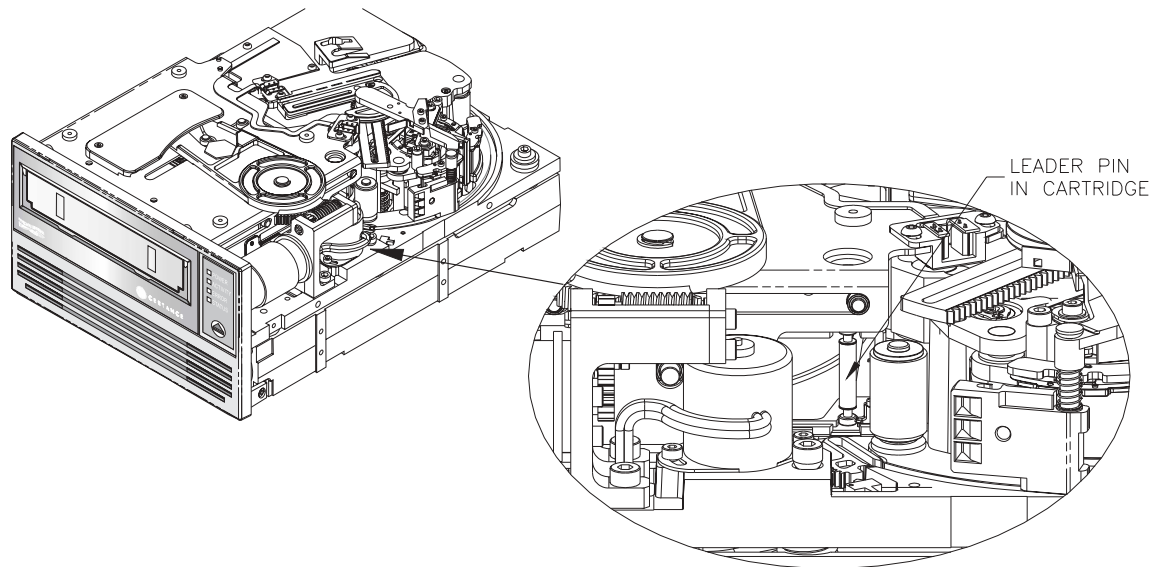

Figure 21. Diagram of LTO-1 and LTO-2 Drives with Leader Pin Inside LTO Cartridge (Tape Not Threaded on Take-up Hub)
- If the cartridge is loaded and the leader pin is still in the cartridge (see Figure 21 on page 77), go to “Cartridge is Loaded and Seated” on page 77.
1. Verify that the leader pin is still inside the cartridge as shown in Figure 21 on page 77. If the leader pin has been pulled out of the cartridge and is still in the tape path, follow the steps in "Cartridge is Loaded and Seated with Tape Threaded" on page 79.